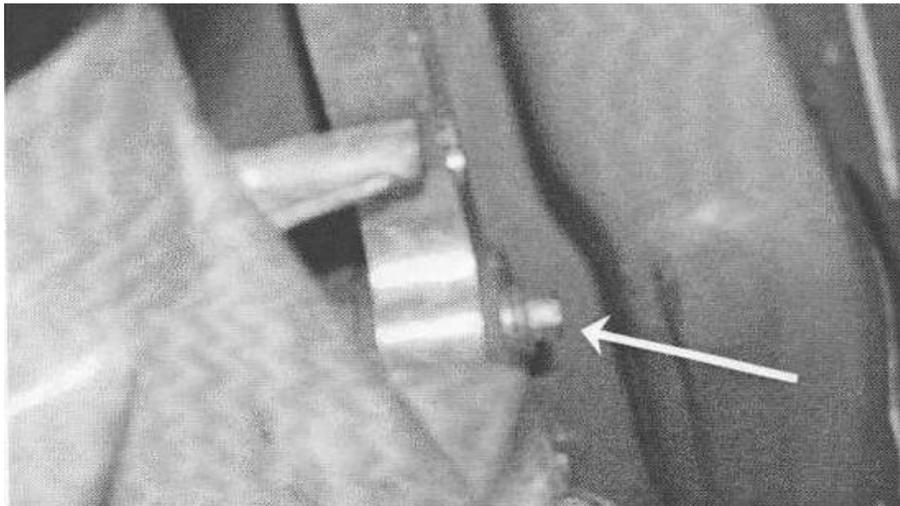

Figure 12
2. Apply Loctite 242 or equivalent to the take out front shifter arm bolt. Install the front shifter arm to the transmission but do not tighten. (Refer to Figure 12)
4. Using a 10mm wrench, tighten the hex bolt that secures the front shifter arm to the transmission. Torque to 40Nm (30 Ib-ft). (Refer to Figure 12).